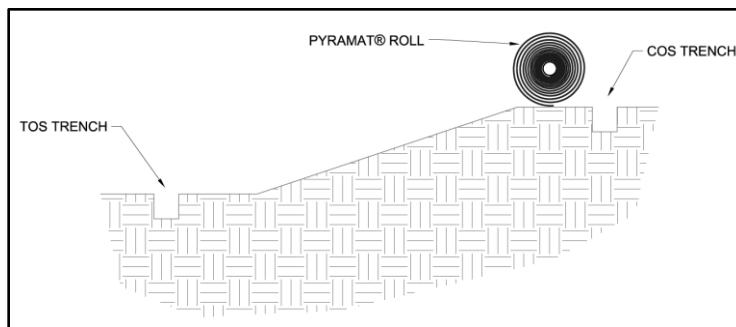
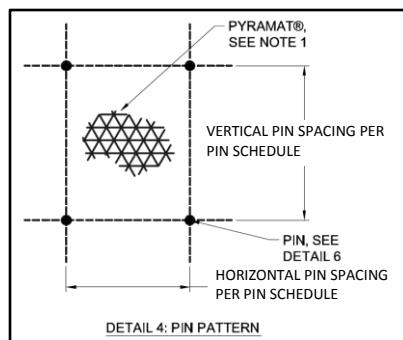
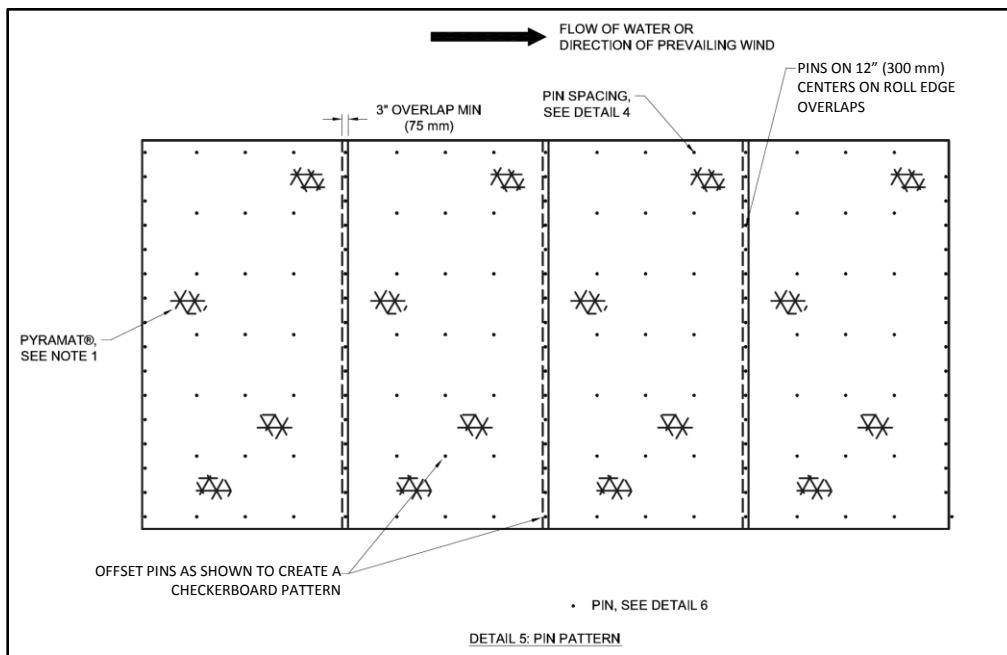

Figure 3: Crest of Slope (COS) Trench Alignment
Figure 7: Example Pin Pattern
Figure 8: Example of Panel Overlap
2. Starting at the COS trench, lay PYRAMAT roll so that the roll ends point towards the crest of the slope (Figure 3), with a 3 in (75 mm) overlap created at adjacent panel edge locations. Ensure that adjacent panel edges maintain a minimum 3 in overlap during **PYRAMAT LAYDOWN** (Figure 8).
6. Secure PYRAMAT panels in place using pins across the slope surface according to the project's engineered design. Pin placement should reflect a checkerboard pattern across the slope surface for best results (Figure 7 and Figure 8).
- Roll edges shall be overlapped a minimum of 3 in (75 mm) with pins placed on 12 in (300 mm) centers (Figure 8).
- Continue to work down the length of the slope by repeating steps 1 through 8 overlapping each adjacent PYRAMAT panel by 3 in (75 mm) (Figure 8). The last PYRAMAT panel should terminate on the Slope Armoring Edge (SAE) with pins on 12 in (300 mm) centers. At a minimum, PYRAMAT panels should be pinned entirely across the slope surface, pins should be installed in the trenches, and the trenches should be backfilled and compacted at the end of each day to minimize rework in the case of a major rain event.